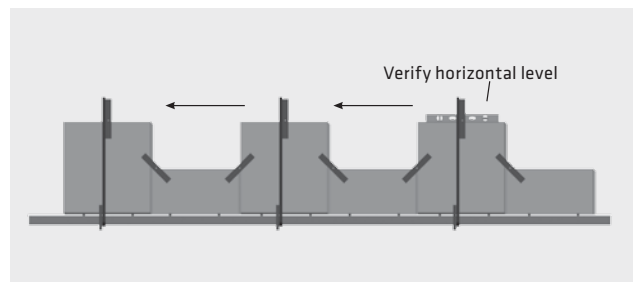

FIGURE 11: Verifying horizontal level.
- ▶ Check the panel for horizontal level; shim if required. (See Figure 11.) If it is not level, shims are placed under the panel in order to make the panel level. Galvanized metal washers or rubber shims are allowed. A maximum $\frac{3}{8}$ in. (9.5 mm) in total shim height at any location is allowed. If more shims are required then the leveling pad is not level.